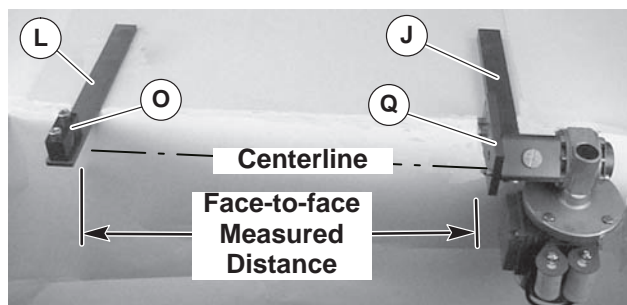

Figure 7
<p>Mounting holes are not provided. Ensure that gearmotor assembly (Figure 7, item J) and bearing support assembly (L) are parallel and center-line of coupling matches center-line of bearing block (O).</p>
- Attach gearmotor assembly (Figure 7, item J) and bearing support assembly (L) to mounting surface.